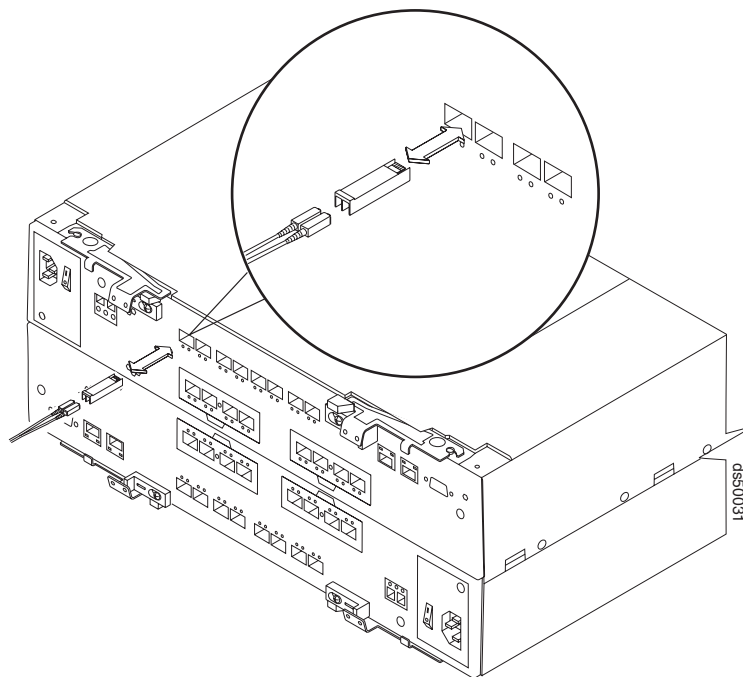

Figure 25. Connecting fiber-optic cable to SFP or SFP+
2. Connect the fiber-optic cable to the installed SFP or SFP+, as shown in Figure 25.